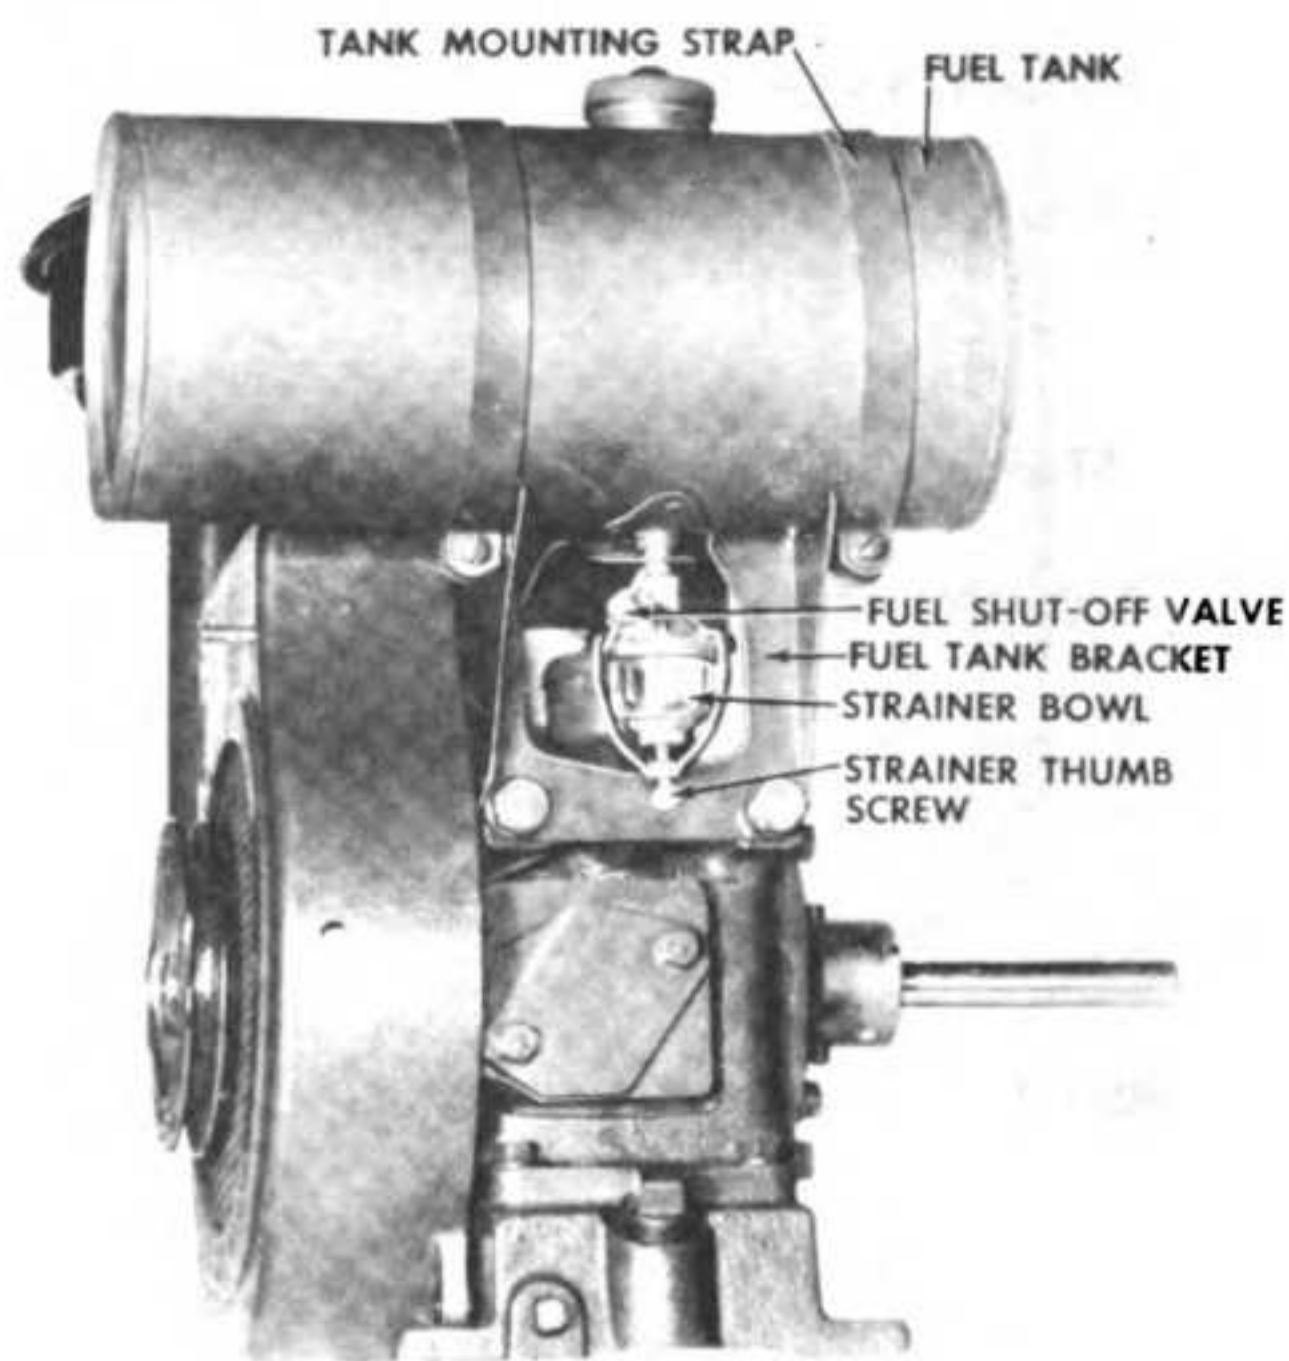

Figure 6—Engine Fuel Strainer
(2) FUEL FILTER. Inspect the fuel filter for leaks, damage, and secure connections. Drain the sediment bowl, and clean the strainer. Drain accumulated dirt and water from the bottom of the fuel tank. Drain until fuel runs clean. Reinstall the filter sediment bowl. (See figure 6.)
(3) **FUEL SHUT-OFF VALVE.** The fuel supply to the carburetor can be shut off at the fuel tank by means of a valve set in the strainer, just below the fuel tank. (See figure 6.)
(a) Open the fuel shut-off valve in the strainer. (See figure 6.)